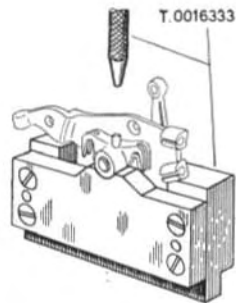

Fig. 111 Riveting the pin of gear shifter.
2. - Fit the assembly into the riveting fixture T.0016333 as shown in Fig. 111, offer up the pin to the hole and rivet in.